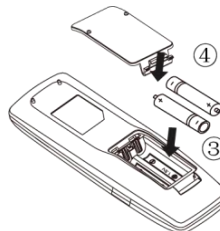

Fig.4
- (3). Place two 7# (AAA 1.5V) dry batteries, and make sure the position of + polar and - polar is correct (as shown in Fig 4③).
- (4). Reinstall the cover (as shown in Fig 4④)